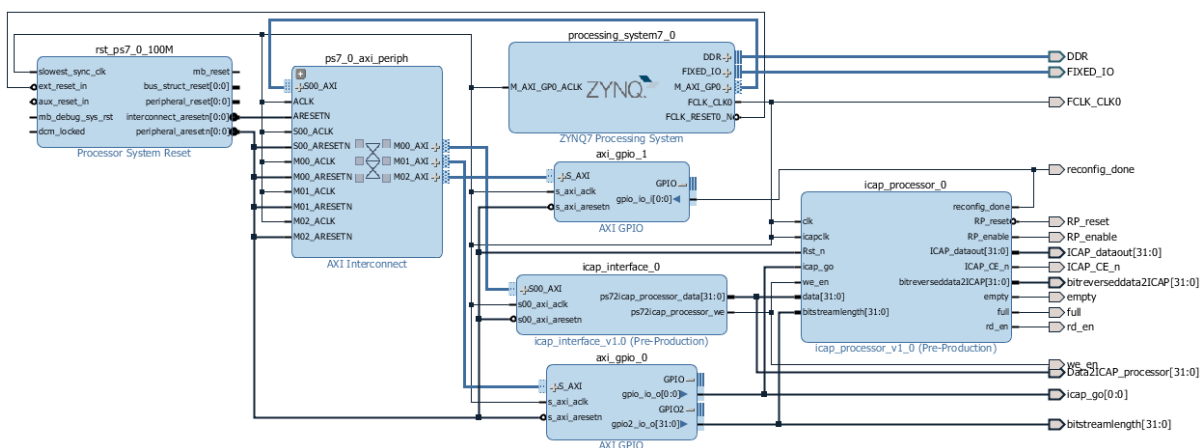

Figure 2. The processor system
- The design looks like as shown in Figure 2.